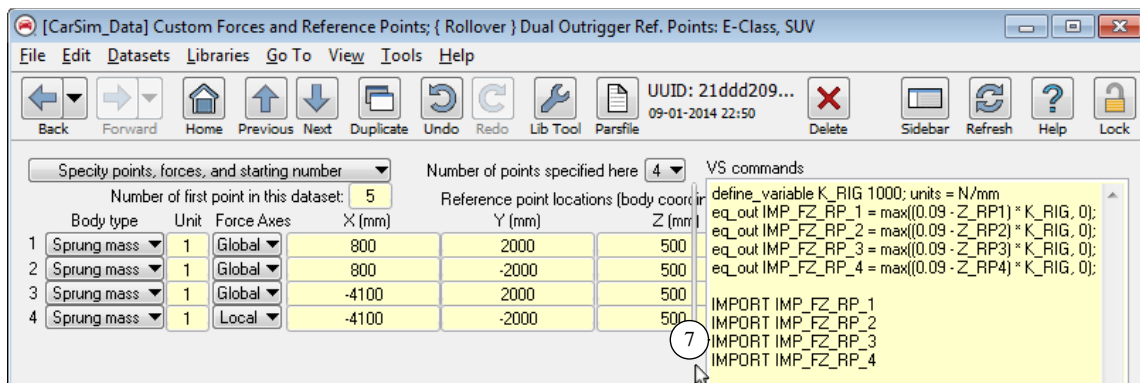

Figure 4. Using the splitter control to widen the VS Command field.
- ② Drop-down control to specify the number of custom forces and associated reference points described in the dataset. The command `DEFINE_REFERENCE_POINTS` is written to define new reference points as needed, given the current number already installed, along with the option selected with the first drop-down list ①.
- ③ Drop-down control to specify the type of body (keyword = `OPT_RP_BODY_TYPE`). For CarSim, the options are sprung mass and suspended engine. For TruckSim, they are sprung mass and suspended cab. For BikeSim, they are sprung mass, steer head, and knuckle.
- ④ If the type of body is “sprung mass” (CarSim or TruckSim) or “knuckle” (BikeSim) then this field is shown to specify the part that contains the reference point (keyword = `OPT_RP_BODY_ID`).
- ⑤ Drop-down control to specify whether the force components are oriented with the local (body) axes or the global (inertial) axes (keyword = `OPT_RP_FORCE_N`).
- ⑥ X-Y-Z coordinates of the reference point within the coordinate system of the selected body (keywords = `X_RP`, `Y_RP`, `Z_RP`).
- ⑦ This field allows advanced users to provide VS Commands to calculate the forces associated with the reference points. For example, Figure 4 shows commands for setting the Z-direction forces to simulate an outrigger contacting the ground. A splitter control adjacent to the field can be used to widen the field to better view long commands.